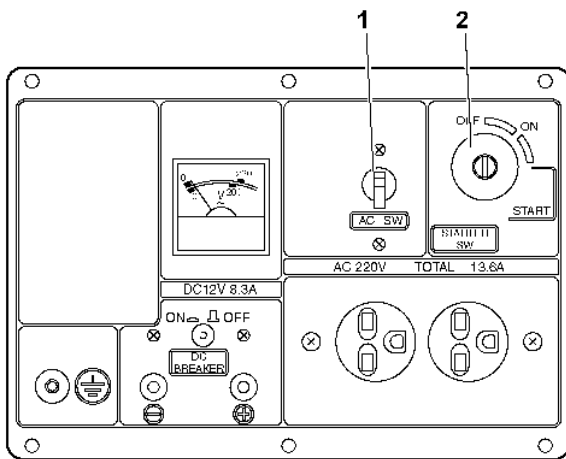

Figure 60
1. Turn the generator main AC switch (**Figure 60, (1)**) OFF.
3. Turn the generator key switch (**Figure 60, (2)**) to OFF.